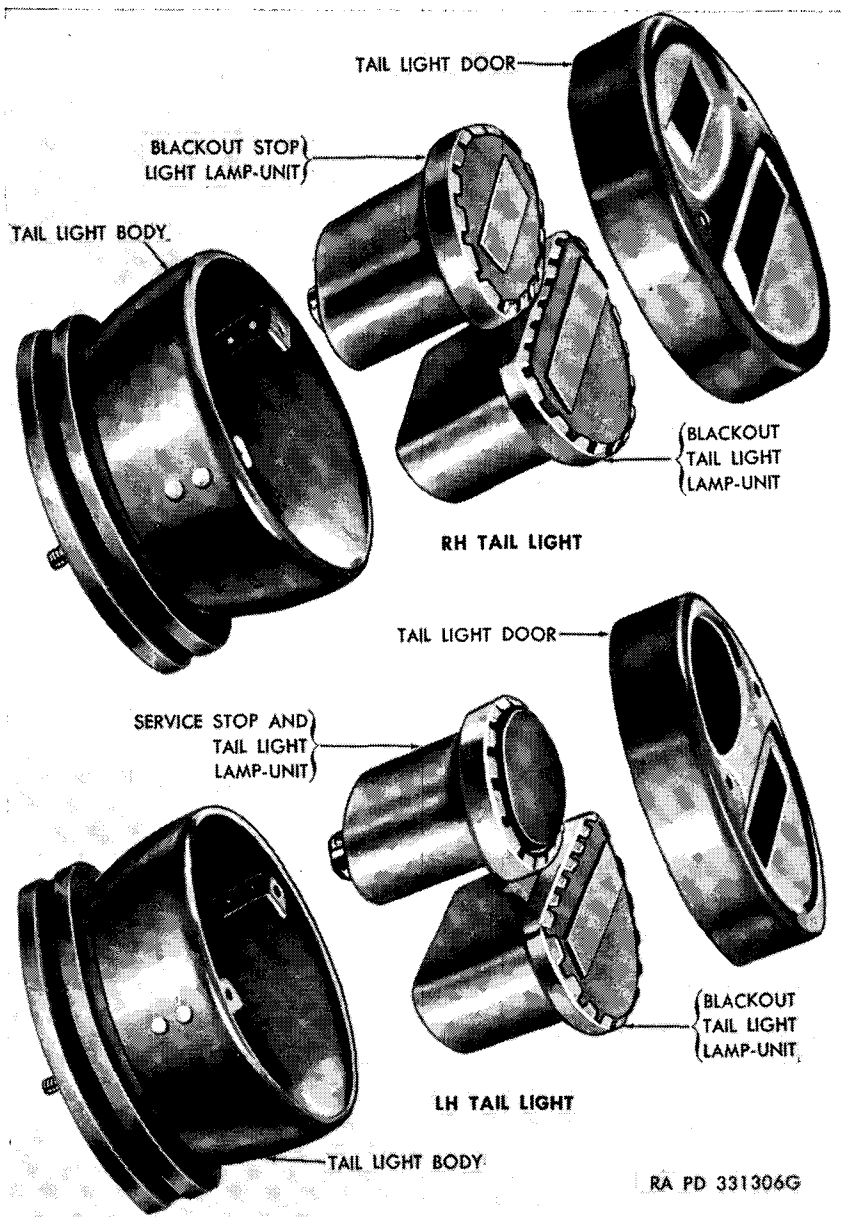

Figure 98. Tail light assemblies—exploded view.
f. REMOVAL OF COMPLETE TAIL LIGHT ASSEMBLY (fig. 98). Remove three screws holding base of tail light assembly to hull. Turn tail light assembly over and remove two nuts and lock washers holding body to base. Slide base away from body and disconnect both cables from body by turning and pulling connections until they slip out of plugs.
g. INSTALLATION OF COMPLETE TAIL LIGHT ASSEMBLY (fig. 98). Connect cables to tail light by inserting cables in sockets and turning them so that they will be locked in place.